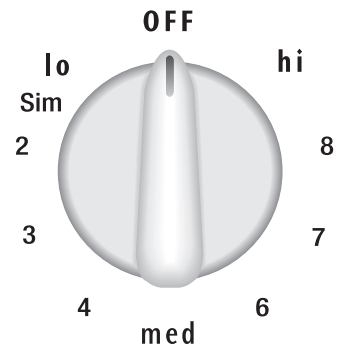
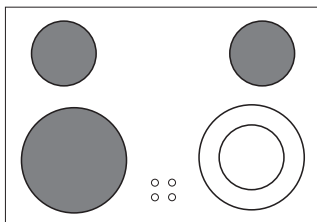

Figure 3
Figure 4 - Model B
The ESEC control provides various heat levels from **Hi** (Fig. 3) to **Lo** (Fig. 4) and **OFF** (Fig. 2).
The cooktop has single radiant surface elements at location as shown on figures 4 to 5.
2. Push in and turn the surface control knob in either direction to the desired setting (Figure 3). Turn the knob to adjust the setting if desired. Start most cooking operations on a higher setting and then turn to a lower setting to finish cooking. Each surface element provides a constant amount of heat at each setting. A glowing red surface heating area extending beyond the bottom edge of the cookware indicates the cookware is **too small** for the surface heating area.